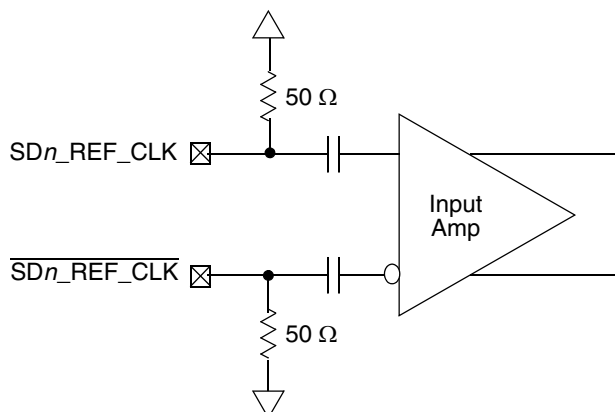

Figure 39. Receiver of SerDes Reference Clocks
Figure 39 shows a receiver reference diagram of the SerDes reference clocks.
- The $\text{SD}n_REF_CLK$ and $\overline{\text{SD}n_REF_CLK}$ are internally AC-coupled differential inputs as shown in Figure 39. Each differential clock input ($\text{SD}n_REF_CLK$ or $\overline{\text{SD}n_REF_CLK}$) has a 50- Ω termination to SGND followed by on-chip AC-coupling.